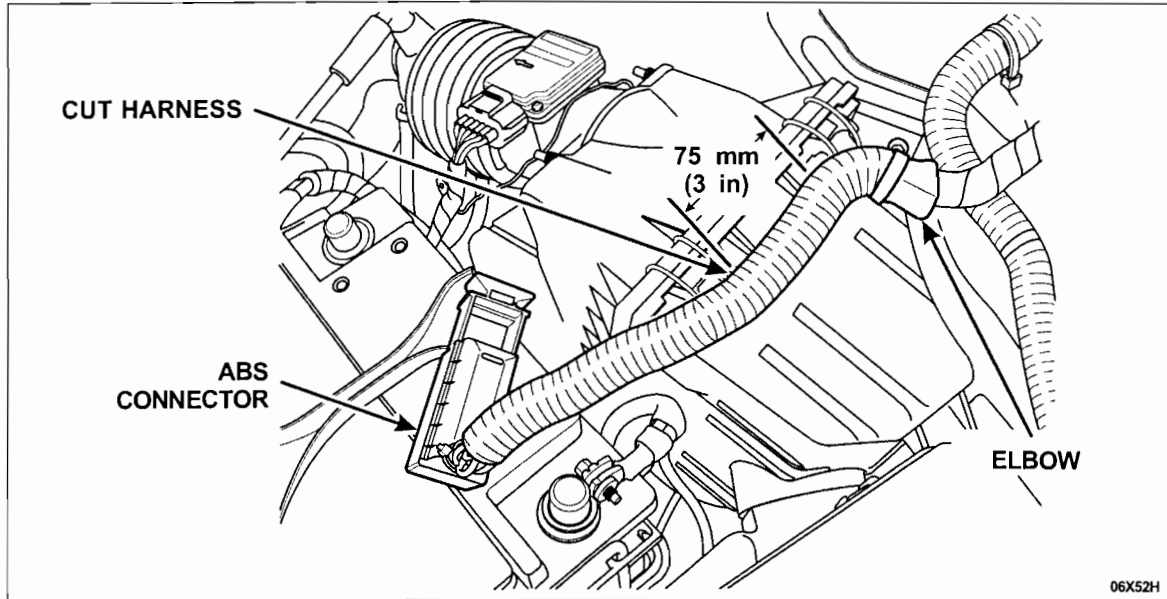

FIGURE 8
1. Remove the tape and the convolute from the vehicle harness which leads up to the ABS module connector. See Figure 8.
2. Measure approximately 75 mm (3 in) from the end of the elbow towards the ABS module connector, then, using suitable wire cutters, cut the harness (all wires) to the same length. See Figure 8.